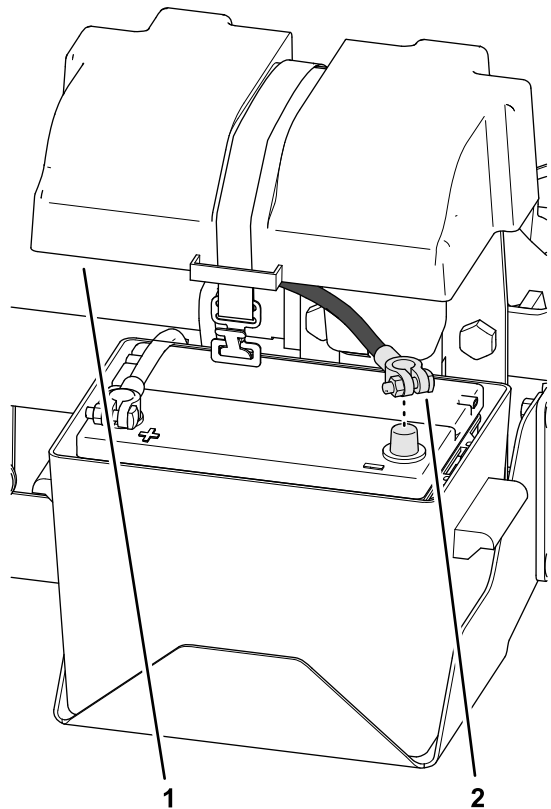

Figure 92
1. Install the negative-battery cable onto the battery terminal (Figure 92).
2. Assemble the cover onto the battery box, and secure the cover with the strap (Figure 92).